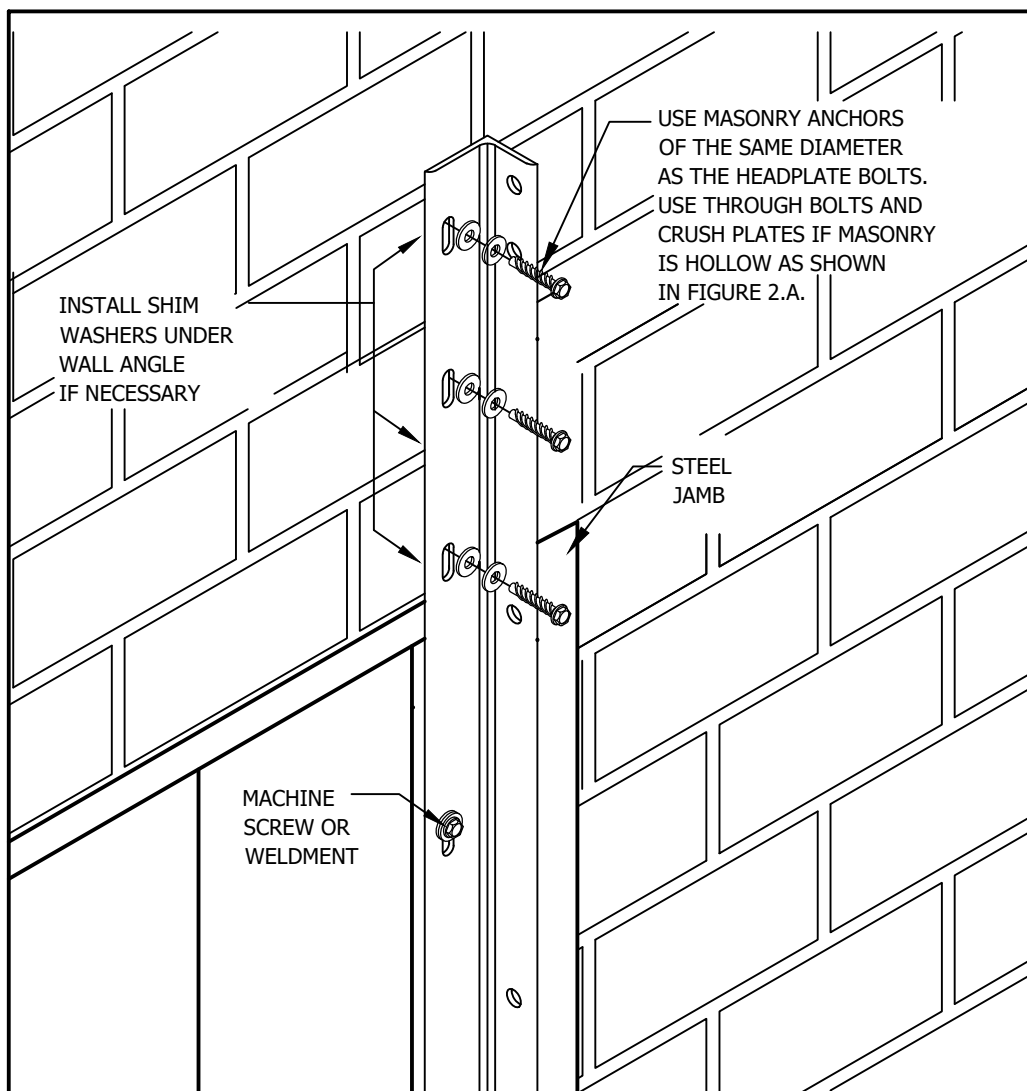

FIGURE 7
NOTE: Use only fasteners provided and approved by ASTA Door Corporation. Reference Figure 3 to determine correct jamb fastener type for your application, and for drill bit size, etc. Locate wall angle masonry anchors or machine screws in the TOP of each slot as shown in Figure 7.
NOTE: Wall angles may extend above steel jambs onto masonry. In this case, attach with masonry anchors of size and type recommended by manufacturer. Mount in the top of each slot as shown in Figure 7. Shim with washers as required to maintain a flush mounting surface for the wall angle. Use anchors that match the diameter of headplate bolts.
- ✓ Two hot dipped galvanized washers must be installed under the head of each jamb fastener as shown in Figure 7.